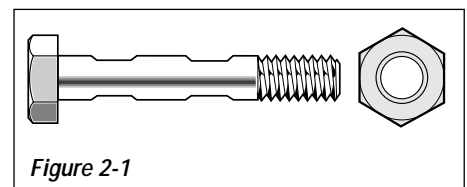

Figure 2-1
* These are replacement parts (Figure 2-1) that should be kept with this manual (if the auger jams, the shear bolts are designed to break to prevent damage to the auger drive). See Section 5 for replacement information.